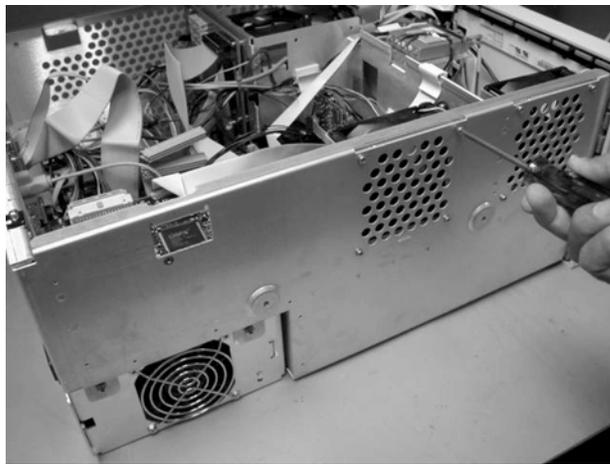

Figure 4-34. Removing the Fan
- 2 Use a T-10 TORX driver to remove the four screws that secure the fan, as shown in Figure 4-34, then lift the fan out of the mainframe.